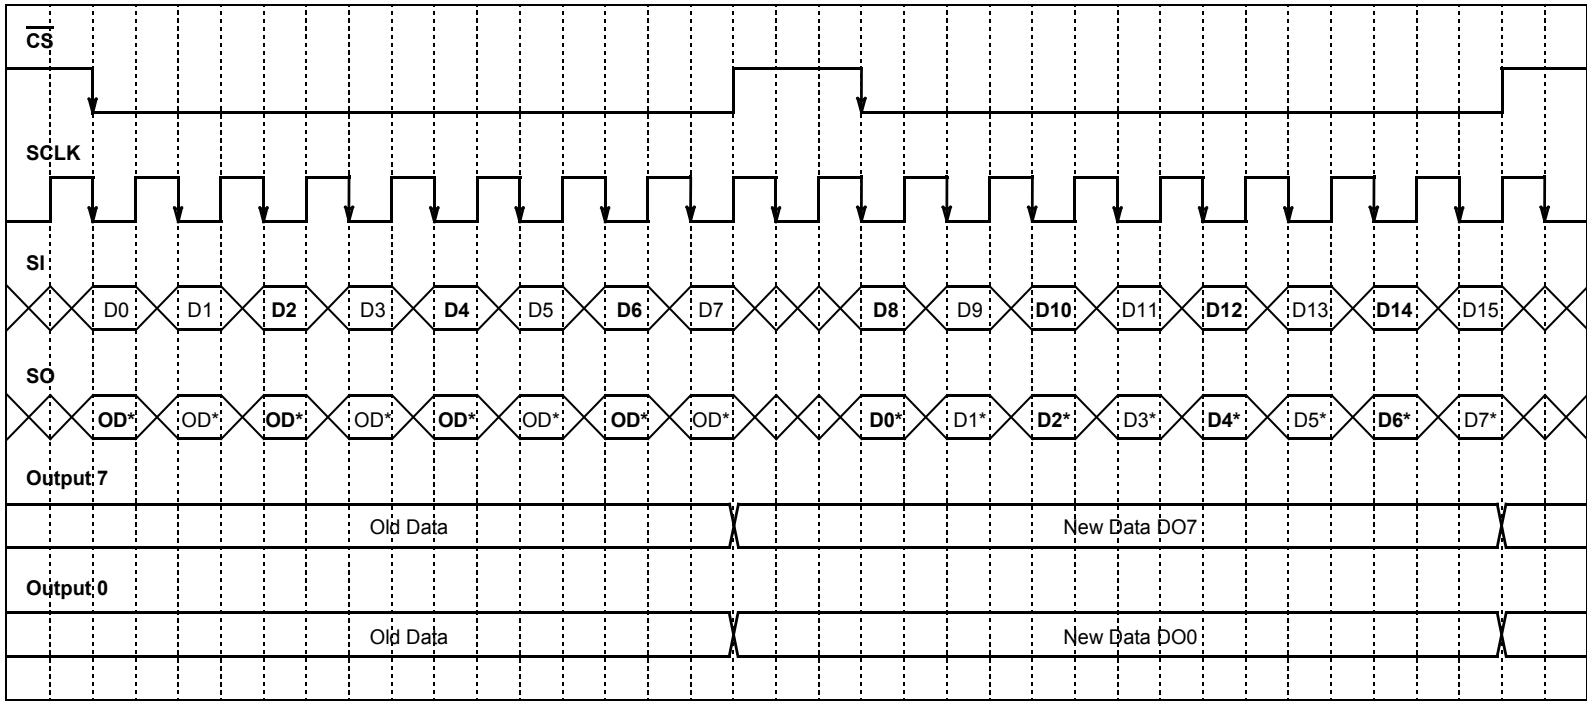

Figure 18. Data Transfer Timing
The system clock (SCLK) pin clocks the internal shift registers of the 33291. The serial input (SI) pin accepts data into the Input Shift register on the falling edge of the SCLK signal while the serial output (SO) pin shifts data information out of the SO line driver on the rising edge of the SCLK signal. False clocking of the Shift register must be avoided to guarantee validity of data. It is essential the SCLK pin be in a logic low state whenever the chip select bar ($\overline{\text{CS}}$) pin makes any transition. For this reason, it is recommended, though not absolutely necessary, the SCLK pin be kept in a low logic state as long as the device is not accessed ($\overline{\text{CS}}$ in logic high state). When $\overline{\text{CS}}$ is in a logic high state, signals at the SCLK and SI pins are ignored and SO is tri-stated (high impedance). See the Data Transfer Timing diagram in Figure 18, page 17.
To program the eight outputs of the 33291 ON or OFF, an 8-bit serial stream of data is required to be synchronously entered into the SI pin starting with Output 7, followed by Output 6, Output 5, and so on, to Output 0. Referring to Figure 18, the DO bit is the most significant bit (MSB) corresponding to Output 7. For each rise of the SCLK signal, with $\overline{\text{CS}}$ held in a logic low state, a data-bit instruction (ON or OFF) is synchronously loaded into the Shift register per the
The serial output (SO) pin is the tri-stateable output from the Shift register. The SO pin remains in a high impedance state until the $\overline{\text{CS}}$ pin goes to a logic low state. The SO data reports the drain status, either high or low relative to the previous command word. The SO pin changes state on the rising edge of SCLK and reads out on the falling edge of SCLK. When an output is OFF and not faulted, the corresponding SO data-bit is a high state. When an output is ON, and there is no fault, the corresponding data-bit on the SO pin will be a low logic state. The SI/SO shifting of data follows a first-in-first-out (FIFO) protocol with both input and output words transferring the MSB first. Referring to Figure 18, the DO bit is the MSB corresponding to Output 7 relative to the previous command word. The SO pin is not affected by the status of the $\overline{\text{RST}}$ pin.
The MCU can perform a parity check of the fault logic operation by comparing the command 8-bit word to the status 8-bit word. Assume after system reset, the MCU first sends an 8-bit command word to the 33291. This word is called Command Word 1. Each output to be turned ON will have its corresponding data bit low. Refer to the data transfer timing illustration in Figure 18.
As Command Word 1 is being written into the Shift register of the 33291, a status word is being simultaneously written and received by the MCU. However, the word being received by the MCU is the status of the previous write word to the 33291, Status Word 0. If the command word of the MCU is written a second time (Command Word 2 = Command Word 1), the word received by the MCU, Status Word 2, is the status of Command Word 1. The timing diagram illustrated in Figure 18 depicts this operation. Status Word 2 is then compared with Command Word 1. The MCU will Exclusive OR Status Word 2 with Command Word 1 to determine if the two words are identical. If the two words are identical, no faults exist. The timing between the two write words must be greater than 100 μs to receive proper drain status. The system data bus integrity may be tested by writing two like words to the 33291 within a few microseconds of each other.